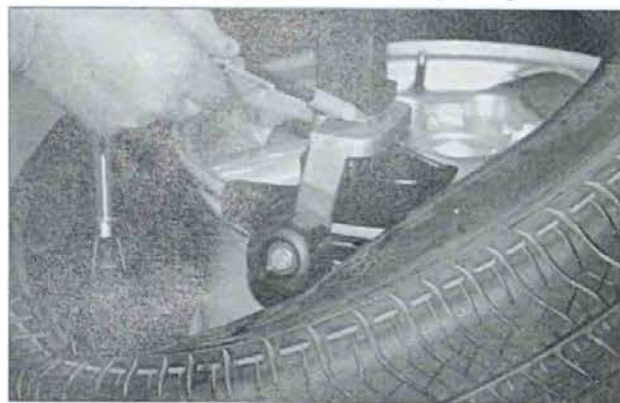

Figure 4 - Duckhead Roller Properly Mounted On Bracket
- 3a. Make sure the duckhead roller assembly is fully engaged on the arm bracket; with no gap (figure 4).